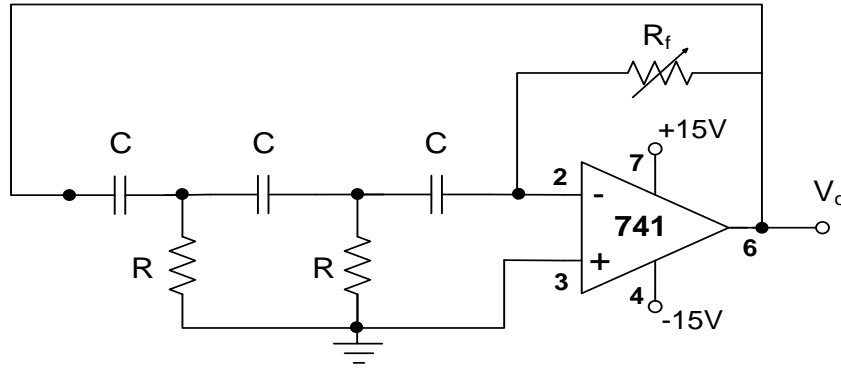

Figure 3: A practical phase-shift oscillator
The circuit of the phase shift oscillator is shown in Figure 3. The circuit will oscillate
2. Design the oscillator of Figure 3 such that the frequency of oscillation will be 610Hz. Use equal capacitors of $15nF$.